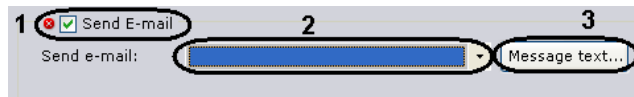

Fig. 6.4—32 Configuring E-mail notification
1. Select the **Send E-mail** check box (Fig. 6.4—32, 1).
2. From the **Send E-mail** list (see Fig. 6.4—32, 2), select the **E-mail** object which will be used for E-mail notification when a detector is triggered.